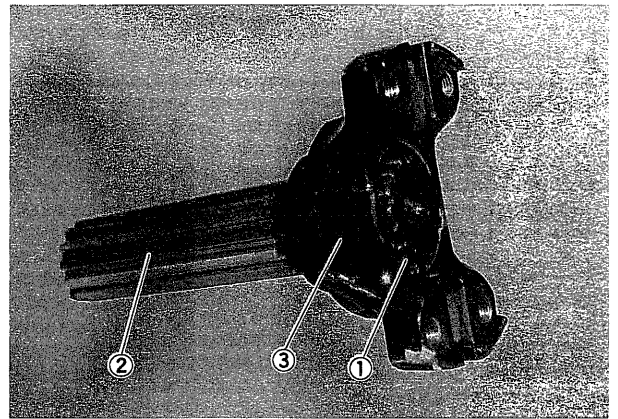

Fig. 71
- 2) After removal of universal joint assembly, remove snap ring (1) and separate flange (3) from shaft (2). (Fig. 71)